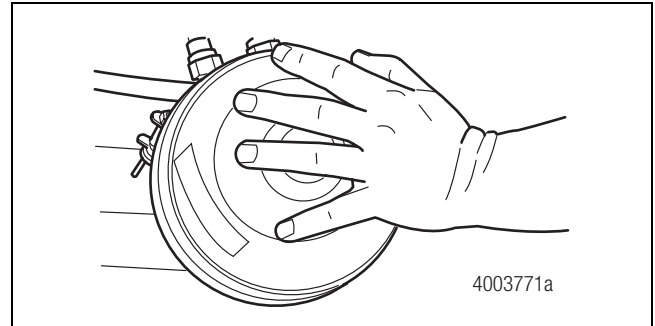

Figure 2.4
3. Place your hand on the brake air chamber that services the wheel end. Feel for any bearing vibration as the hub is rotated. The air chamber will amplify any vibration. Rely more on vibration than noise since dirt in the hub seal can make a noise similar to a worn bearing. Figure 2.4.